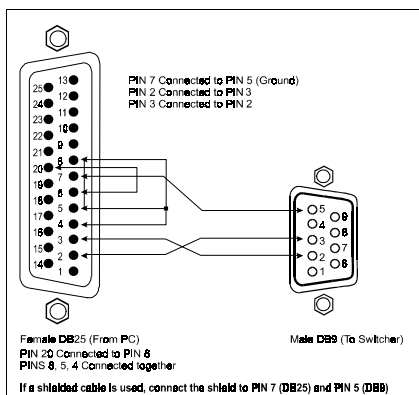

Figure 3: Connecting a PC without using a Null-modem Adapter
- For a 25 pin COM port (DB25): Connect the RS-232 port on your PC to the *RS-232 in DB9F* port on the **VP-43xl Interface Converter** unit, as Figure 3 illustrates